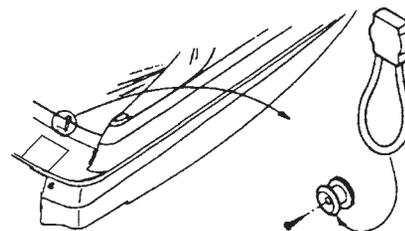

Figure O5: Shock Cords
- b. If the canvas has shock cords (elastic cords) along the aft edge, attach to knobs as shown in Figure O5.